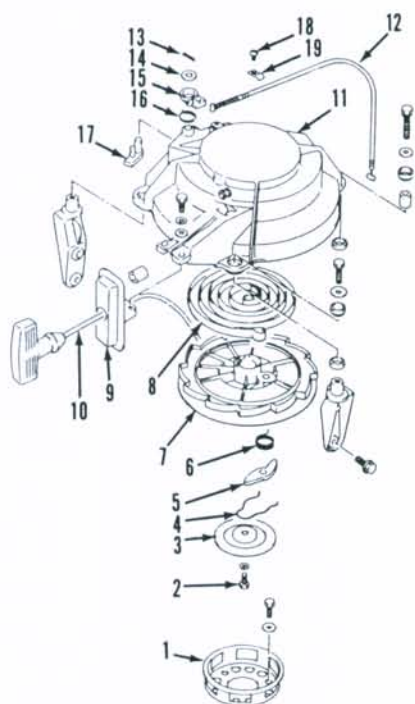
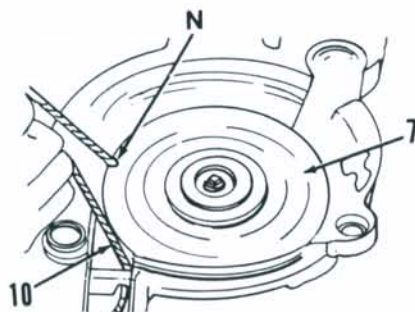

Fig. SZ11-56—Exploded view of manual starter assembly.
Fig. SZ11-57—To relieve rewind spring tension, grasp rope (10) as shown, place rope into notch (N) and allow pulley (7) to rotate clockwise.
Refer to Fig. SZ11-56 for exploded view of manual rewind starter assembly. To remove starter assembly, remove screw (18) and clamp (19), detach neutral start cable (12) and remove three screws securing starter assembly to power head. To disassemble starter, remove cotter pin (13), washer (14), arm (15), spring (16) and lever (17). To relieve rewind spring tension, invert starter housing and grasp a section of rope, place rope into notch (N—Fig. SZ11-57) provided in rope pulley (7). Holding rope as shown, allow pulley (7) to rotate
clockwise relieving rewind spring tension. Remove screw (2—Fig. SZ11-56), plate (3) and friction spring (4). Remove pawl (5) and spring (6), then carefully lift out rope pulley (7) making sure rewind spring (8) remains in housing (11). Using suitable hand and eye protection, carefully remove rewind spring (8) from housing (11).
Inspect all components for excessive wear or other damage and renew as necessary. Reassemble starter in the reverse order of disassembly noting the following: Starting with inner coil, wind rewind spring into housing in clockwise direction. Apply a suitable water-resistant grease to rewind spring. Wind rope onto pulley (7) 2½ turns in counterclockwise direction (viewed from fly-wheel side) and install pulley (7) into housing. Make sure pulley properly engages hook on inner coil of rewind spring. Apply water resistant grease to both sides of plate (3). To preload rewind spring, place rope into notch of rope pulley as shown in Fig. SZ11-57 and rotate rope pulley four turns counterclockwise. Release rope and allow remaining rope to wind onto pulley. Install starter assembly on power head and connect neutral start cable. With clutch lever in neutral position, slot (S—Fig. SZ11-58) should align with mark (N) on housing (11). With clutch lever in for-